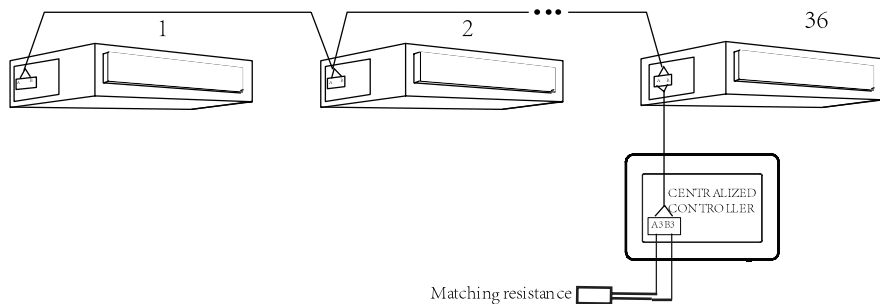

Figure 3-7 Centralized Controller Connected with UNI SPLIT Unit
- (1) The centralized controller is applicable to UNI SPLIT units, One centralized controller can control up to 36 UNI SPLIT units.
- (2) If the centralized controller is to be connected with UNI SPLIT units, connect according to fig.3-7. The controller must connect with terminal unit of UNI SPLIT system .Connect the centralized controller's A3 and B3 ports to COM\_BMS port on the UNI SPLIT unit correspondingly with communication cords. A matching resistance needs to be added with the communicationcords at the A3 and B3 ports. There are two COM\_BMS ports (two coreneilsbed and no polarity) on mainboard of UNI SPLIT unit, one for centralized controller and another for UNI SPLIT unit connection.